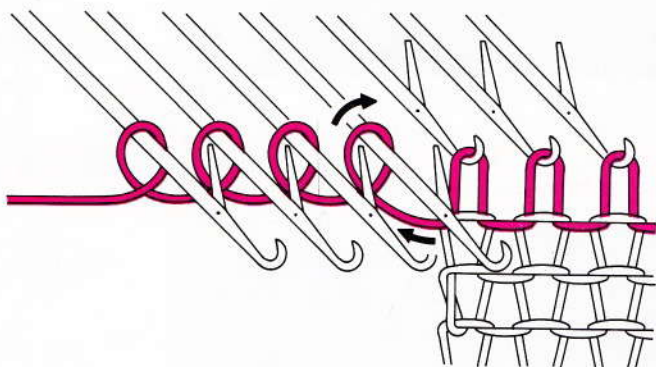

Fig. 96
- Same process as above but winding the yarn from right to left (fig. 96).